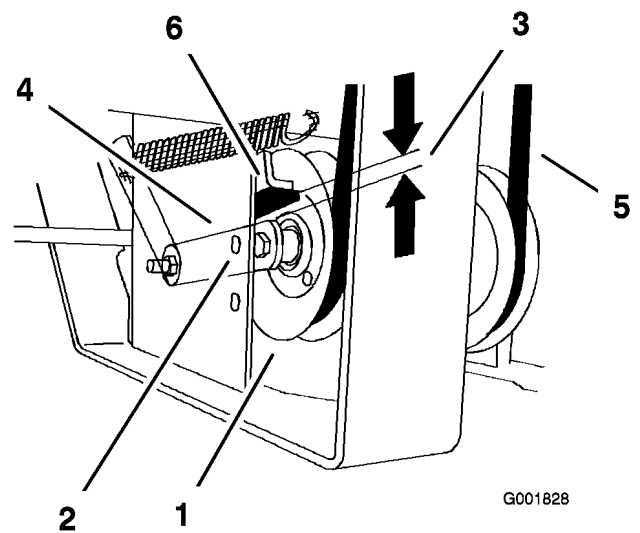

Figure 59
9. Check the distance from the rubber stop and the arm of the spring loaded idler pulley when the idler plate is tightened. It needs to be 0 to 1/4 inch (0 to 6 mm) from the rubber stop (Figure 59).